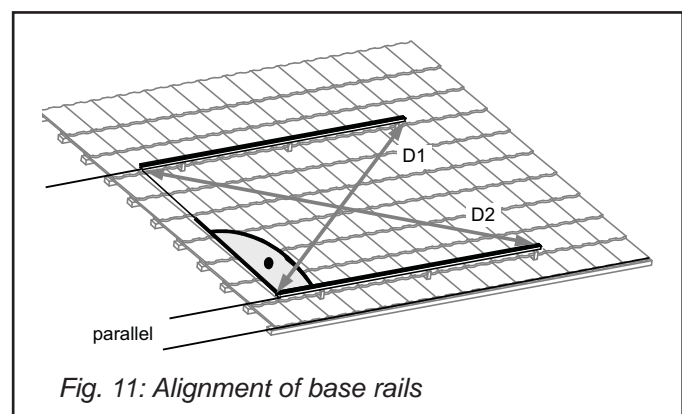

Fig. 11: Alignment of base rails
- Align the rails so that they lie in parallel to roof tiles. The diagonal between the rails must be of the same length: $D1 = D2$ (Fig. 11).